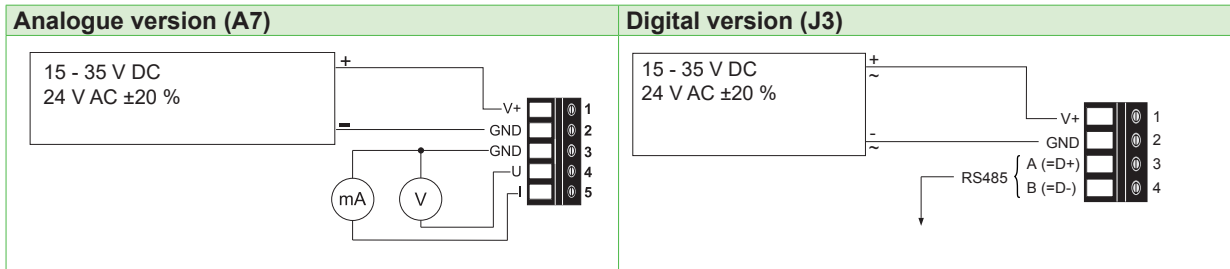

Fig. 3 Connection diagram
- Insert the cable for supply voltage and output signal through the cable gland and connect it to the spring terminals according to the wiring diagram (Fig. 3 Connection diagram).